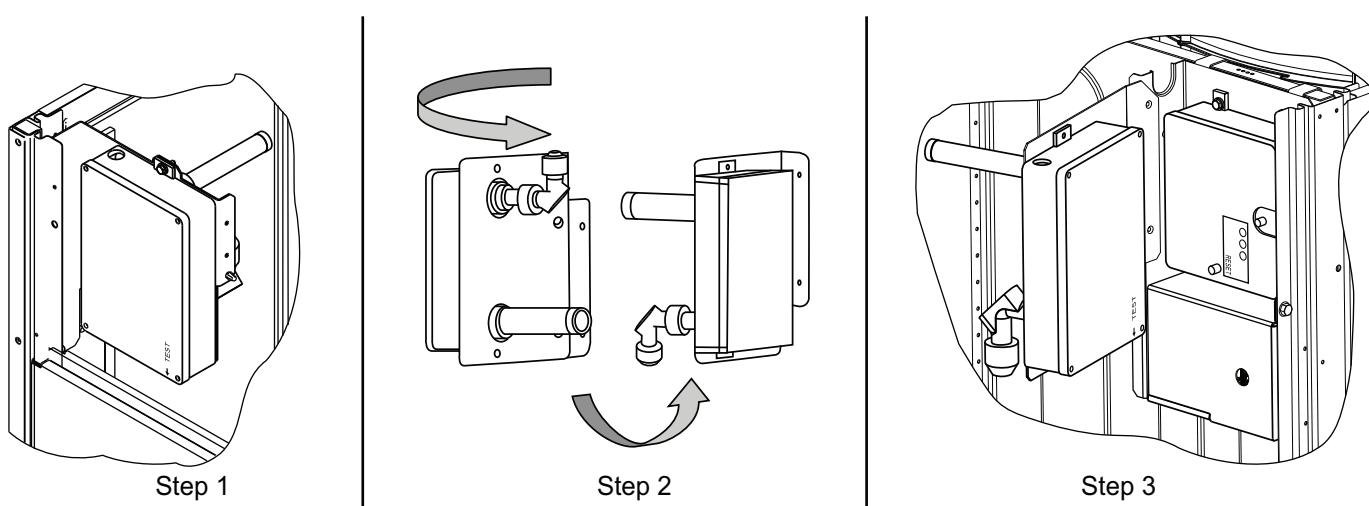

Fig. 77 — Completing Installation of Return Air Smoke Sensor
1. Unscrew the two screws holding the return-air smoke detector assembly. See Fig. 77, Step 1.
3. Turn the assembly 90 degrees and then rotate end to end. Make sure that the elbow fitting is pointing down. See Fig. 77, Step 2.
4. Screw the sensor and detector plate into its operating position using screws from Step 1. See Fig. 77, Step 3.